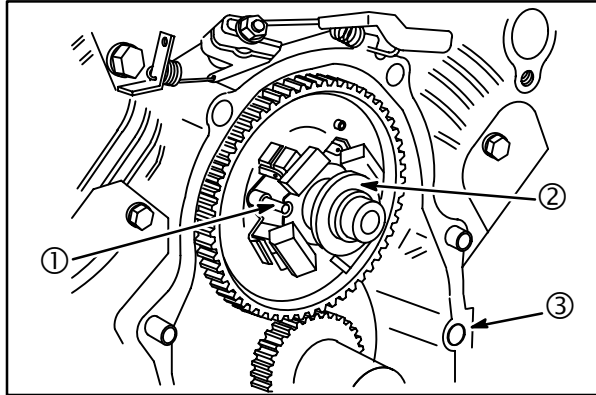

Fig. 5
3. Align timing marks on camshaft and crankshaft timing gear. Install camshaft, **Fig. 5**.
4. Assemble governor spool (2) to camshaft (except Models **540000, 610000**).
- a. Install new O-ring (3) in cylinder.
- b. Make sure that spool engages flyweights and slot on spool fits over locating pin (1).